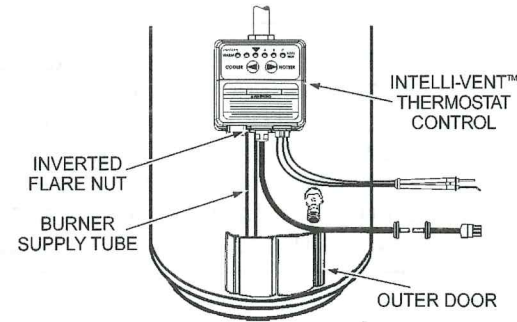

FIGURE 2
inverted flare nut, which is threaded into the Intelli-vent™ Thermostat Control, (183760 Series), see Figure 2.
5. Remove the outer and inner doors from the water heater, see Figures 2 and 3. Note: The doors may be different than those pictured.